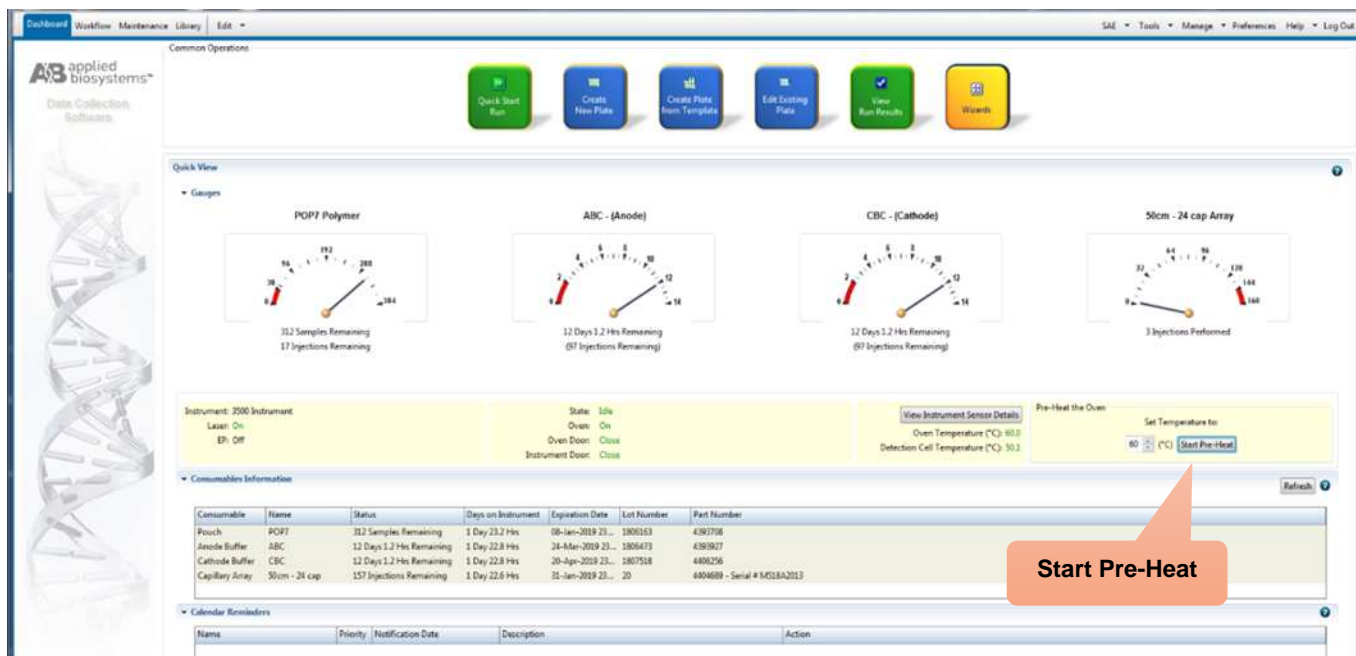

Figure 4. Dashboard of Applied Biosystems 3500 Data Collection software
- The Dashboard screen (Figure 4) is launched when 3500 Data Collection Software is opened. Click the Refresh button to make sure that all the information on the Dashboard is up-to-date. Make sure that the Maintenance and Consumables notifications are acceptable.